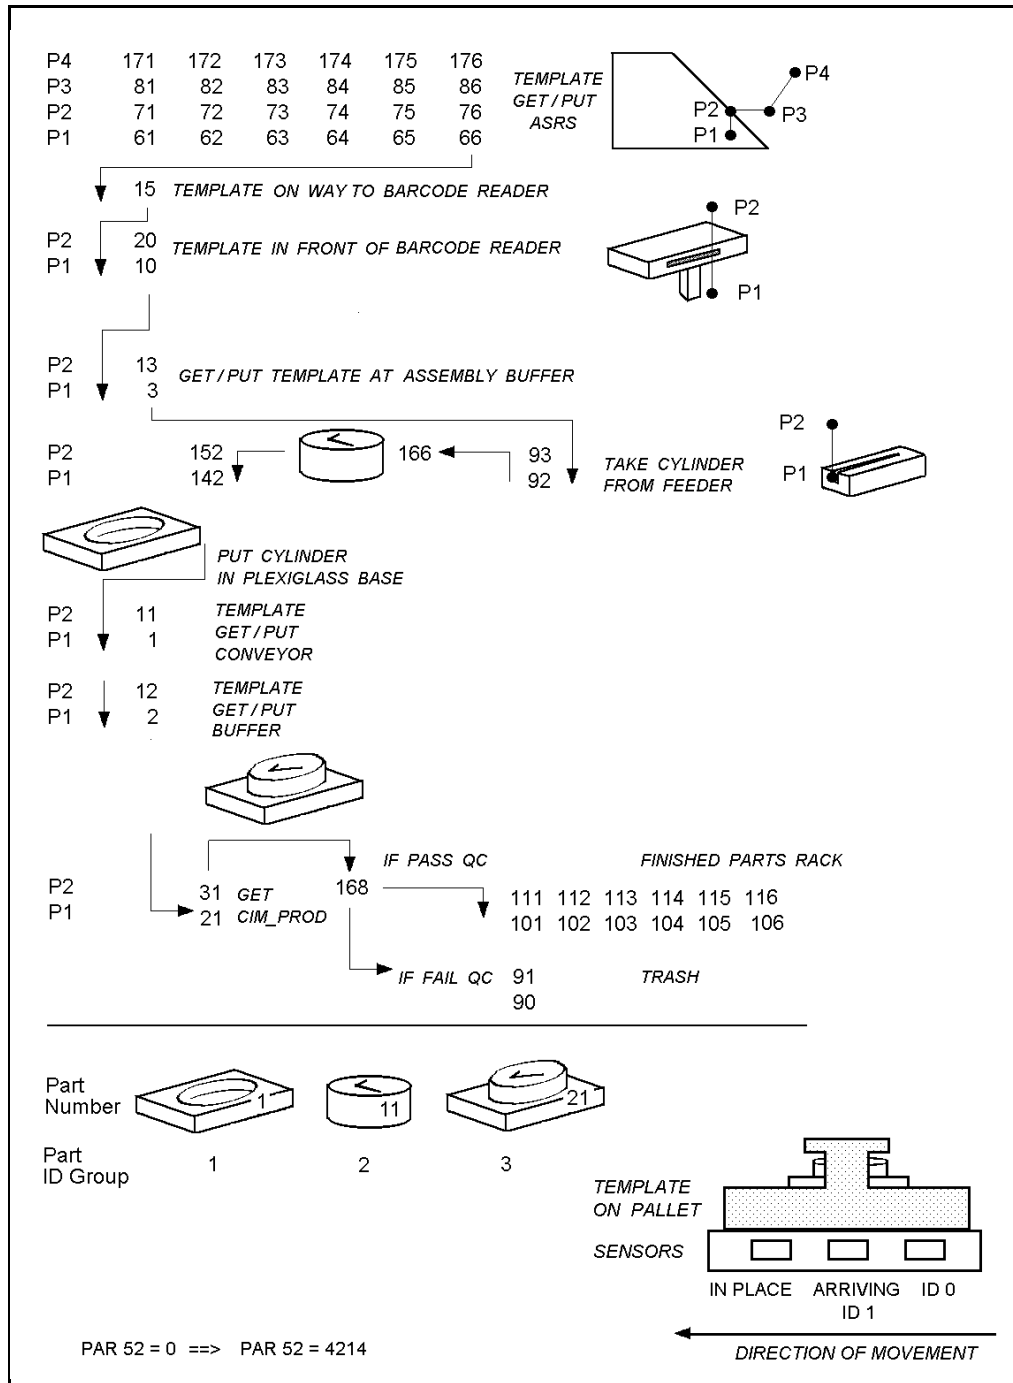

Figure 10: Position Teaching Sequence
3. Figure 10 and the following Positions Table show the numbers of the positions which must be recorded before the assembly operation can be executed.
The part ID numbers (*PID* in Figure 10) determine the name (number) of the various positions in the **ER-MicroCIM** cell.